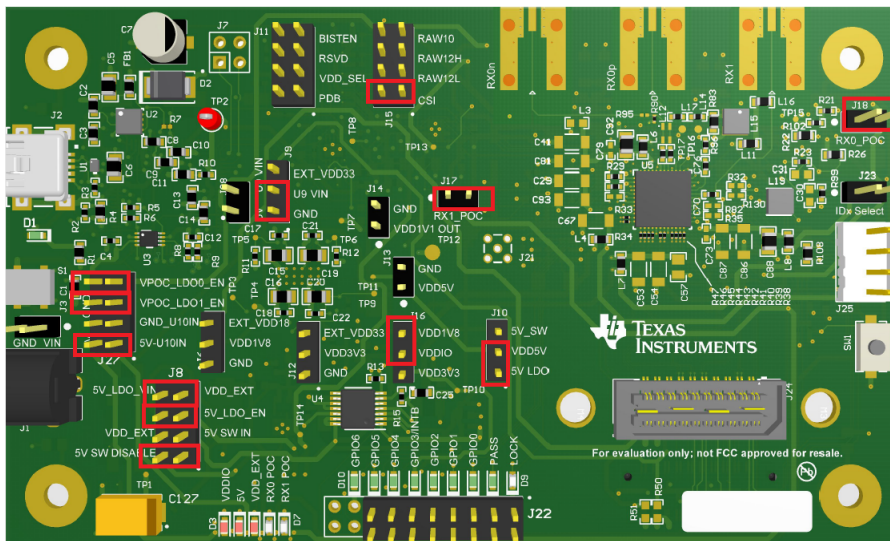

Figure 4. DS90UB95x-Q1EVM with Jumpers Highlighted
2. Configure jumpers J8, J10, J11, J15, J16, J23, J27 to set device's operating modes. The default configuration can be seen in Figure 4.